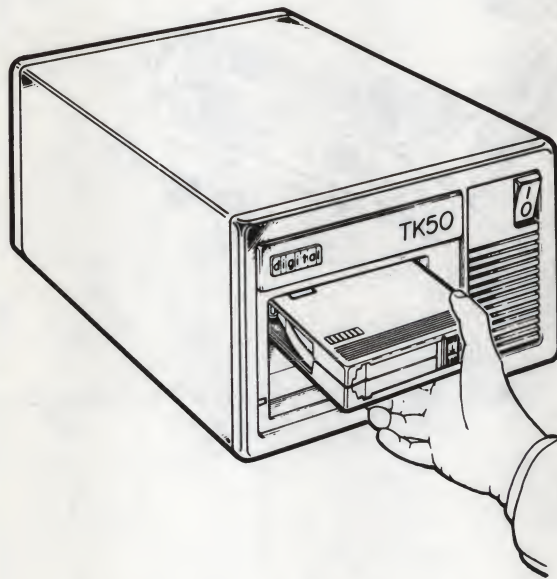

Figure 2-3 Inserting a Tape Cartridge
- The TK50 tape cartridge records information only on one side. You must insert the tape cartridge correctly into the tape drive. Make sure the arrow on the tape cartridge faces up (Figure 2-3).